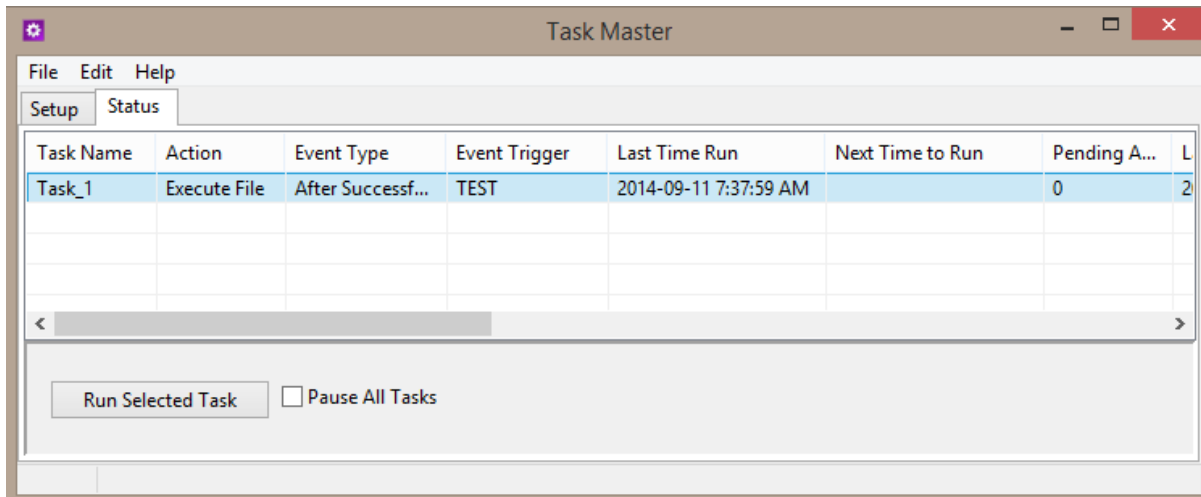

Figure 4.26: Viewing the status of scheduled tasks in 'Task Master' utility.
- a. Verify that the ‘Pause All Tasks’ check box is unchecked, **Figure 4.26**.